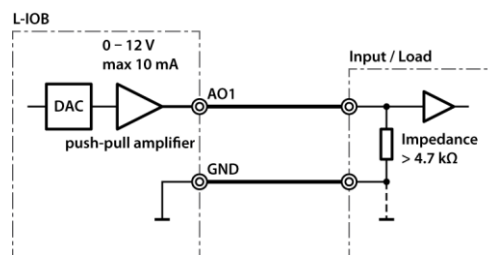

Figure 58: Analog outputs
Figure 58 shows the wiring of the analog outputs (AO). Observe that the analog outputs are labeled '0-10V OUT' but are in fact capable of delivering over 11V.